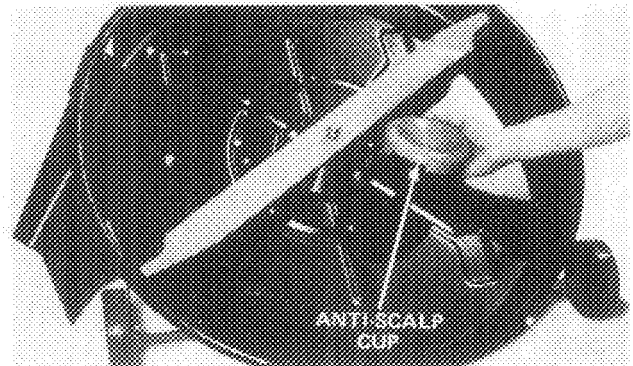

Figure 24
5. Turn cutting unit on its side, grasp the end of the blade with a rag or thickly padded glove; then remove the locknut, anti-scalp cup and blade (Fig. 24).
9. In sequence, install blade, anti-scalp cup and locknut (Fig. 24). Tighten locknut to 50-60 ft/lb (68-81 N·m).
IMPORTANT: Make sure blade sail is facing top of mower housing and cutting edge of blade is away from top of mower housing (Fig. 24). While lock nut is tightened, move blade slightly so it seats between sides of blade retainer.